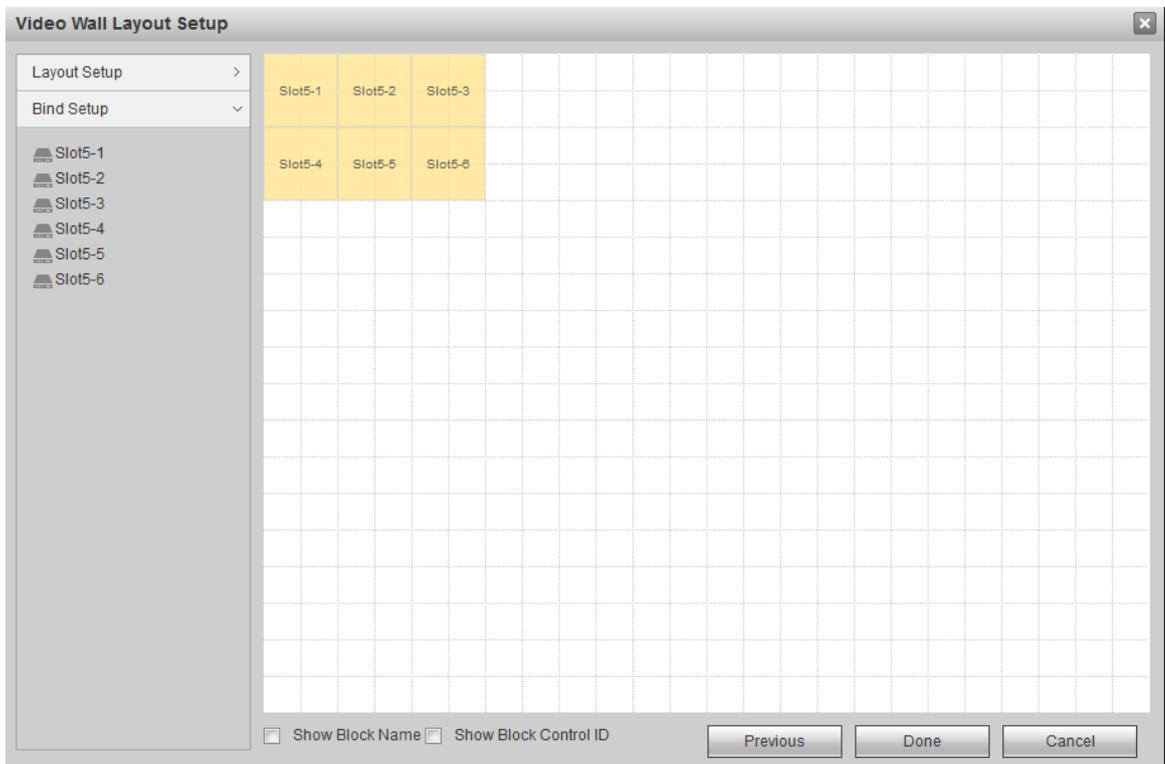

Figure 3-7
**Step 5** Hold the left mouse button, drag the slot into screen, so as to bind the slot channel with screen, as shown in Figure 3-7.